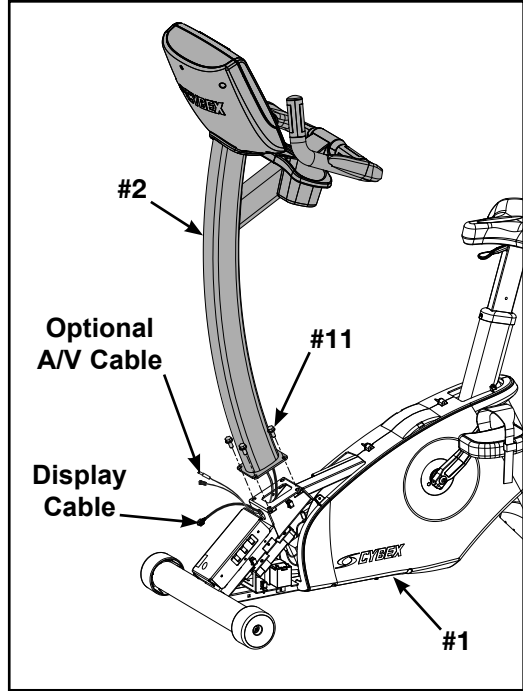

Figure 2
- A. Locate the console assembly (#2) and four mounting screws 5/16-18 x .75" (#11). See Figure 2.
- C. Carefully feed the display cable and optional A/V cable through the frame as shown in Figure 2.
- E. Hand thread the other two screws 5/16-18 x .75" (#11). See Figure 2.